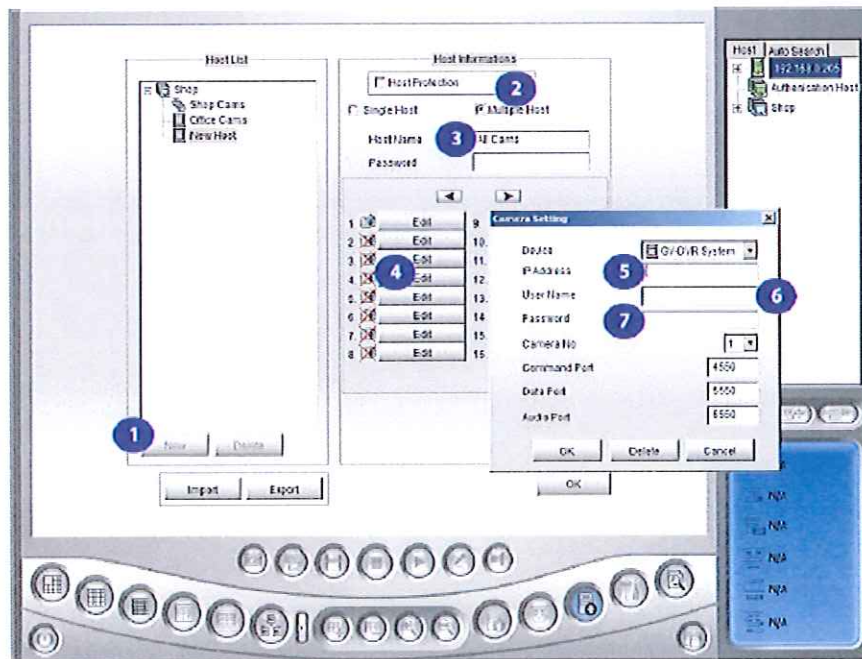

Figure 2.4 – Creating a Multiple Host
- 2) Click on the New Button (#1, Figure 2.4). Select Host.
- 3) Click on the Multiple Host Button (#2, Figure 2.4).
- 4) In the Host Name field (#3, Figure 2.4) name your new list.
- 5) Select an edit button next to a camera with a red X over it (#4, Figure 2.4) (this signifies that there is no camera installed in that location).
- 6) In the IP Address field (#5, Figure 2.4) type the IP Address of the machine with the camera that you want to connect (See your IT Department or call Homeland Safety Systems, Inc. for this information).
- 7) In the User Name and Password fields (#6 and #7, Figure 2.4) input the user name and password (issued to you) in the appropriate field. Click OK.